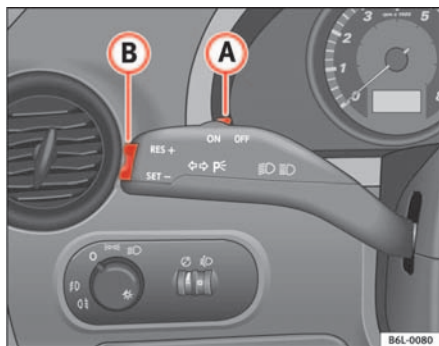

Fig. 102 Turn signal and main beam lever: switch and rocker switch for CCS
- Press the upper part **RES+** of the rocker switch ⇒ fig. 102 **A** to increase the speed. The vehicle will continue to accelerate for as long as you keep the rocker switch pressed. When you release the switch, the new speed is stored.
Control of the set speed is switched off if you reduce speed by depressing the brake pedal. You can reactivate the control by pressing once on the upper part of the rocker switch **RES+** ⇒ fig. 102 **A**.